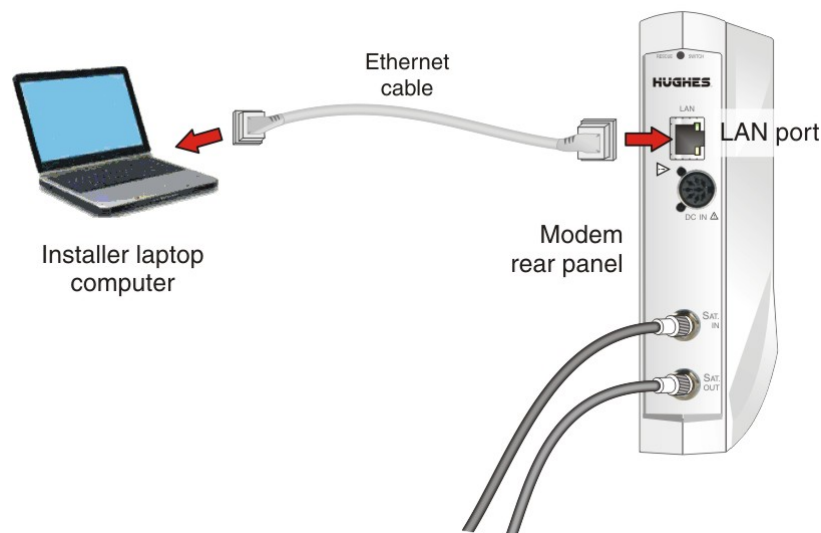

Figure 6: Connecting the installer laptop computer to the modem
1. Use an Ethernet cable to connect your laptop computer *directly* to the modem's LAN port, as shown in *Figure 6: Connecting the installer laptop computer to the modem* on page 16.